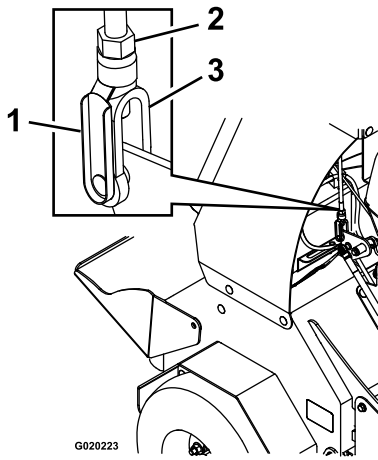

Figure 53
- B. Remove the spring-clevis pin from the fork fitting of the traction-control linkage (Figure 53).
- If the control lever **contacts the reference bar**, rotate the fork fitting (Figure 53) counterclockwise (as viewed from the top of the machine).
- If the control lever **does not contact the reference bar**, rotate the fork fitting (Figure 53) counterclockwise.
- D. Install the spring clevis pin (Figure 53) and move the control lever forward.
- F. Remove the spring-clevis pin, rotate the turnbuckle clockwise 1 additional turn, and insert the spring-clevis pin (Figure 53).